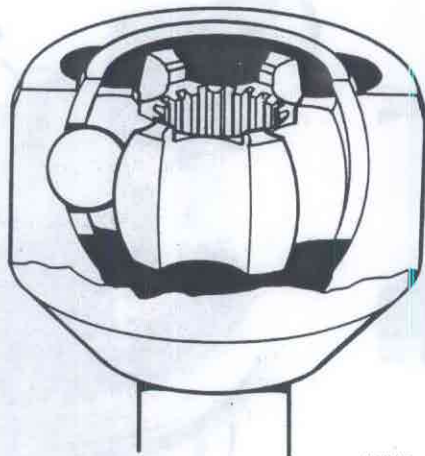

Fig. 46-91. Location of flange
2. Insert the balls one at a time. When all the balls have been inserted, the flat side of the flange as well as the small inner diameter of the cage, Fig. 46-91, should face downwards.